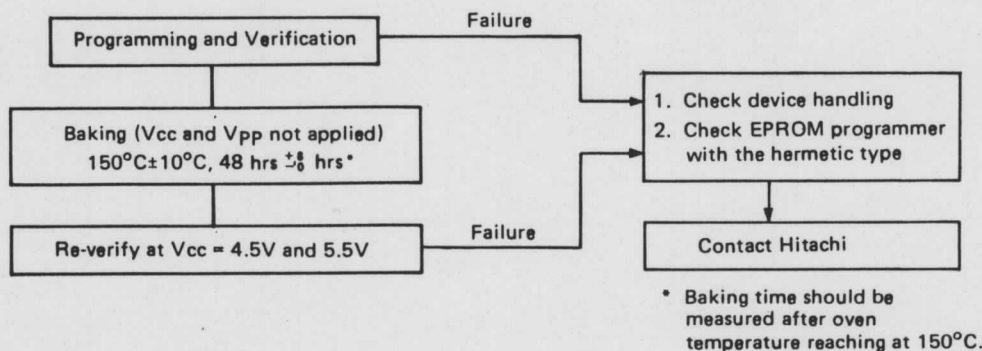

Figure 31 Recommended Screening Procedure of the ZTAT™ MICRO
(Caution) If the user experiences several consecutive programming failures, from same EPROM programmer, after the recommended screening procedure shown in Fig. 31, then call Hitachi.
(3) Screening procedure of the ZTAT™ MICRO
In general, any standard manufacturing screening of semiconductor devices will make initial failures rejected and improve reliability. The bake procedure is the standard screening for EPROM devices, which accelerates any electron leakage at the floating gate described before (see (1)). The manufacturer, of course, tests the CPU, RAM, I/O, other logic functions and the PROM of the ZTAT™ MICRO after screening at wafer site, and rejects any devices which do not pass the tests. If users require improving reliability of the ZTAT™ MICRO's PROM portion, it is recommended that users also carry out the screening procedure shown in Fig. 31 after programming.